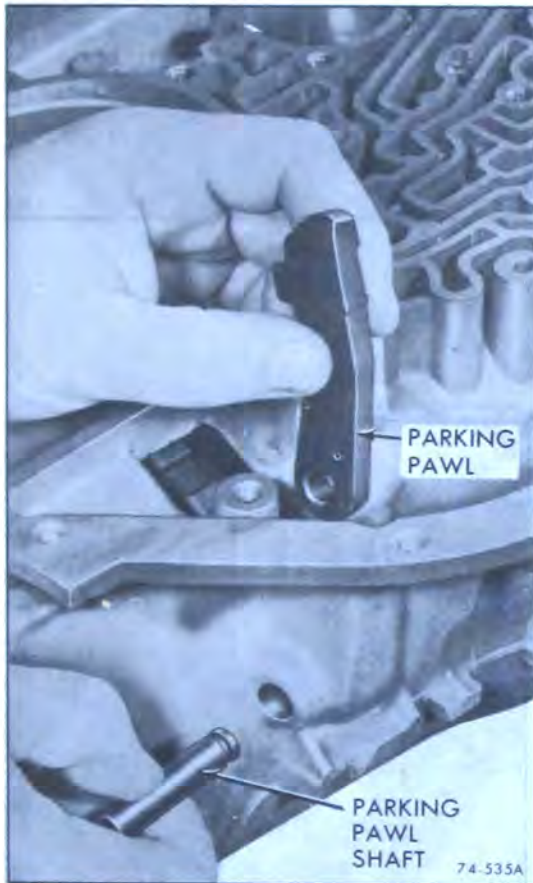

Figure 74-535
j. Remove parking pawl shaft, and parking pawl. See Figure 74-535.